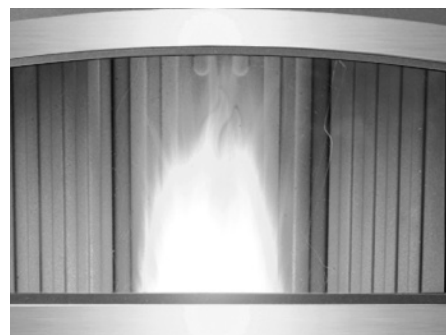

Figure 6: Efficient Flame.
- If the flame is in the middle of these two characteristics with a bright yellow/orange, active flame with no black tips then the air is set for proper operation, refer to Figure 6.